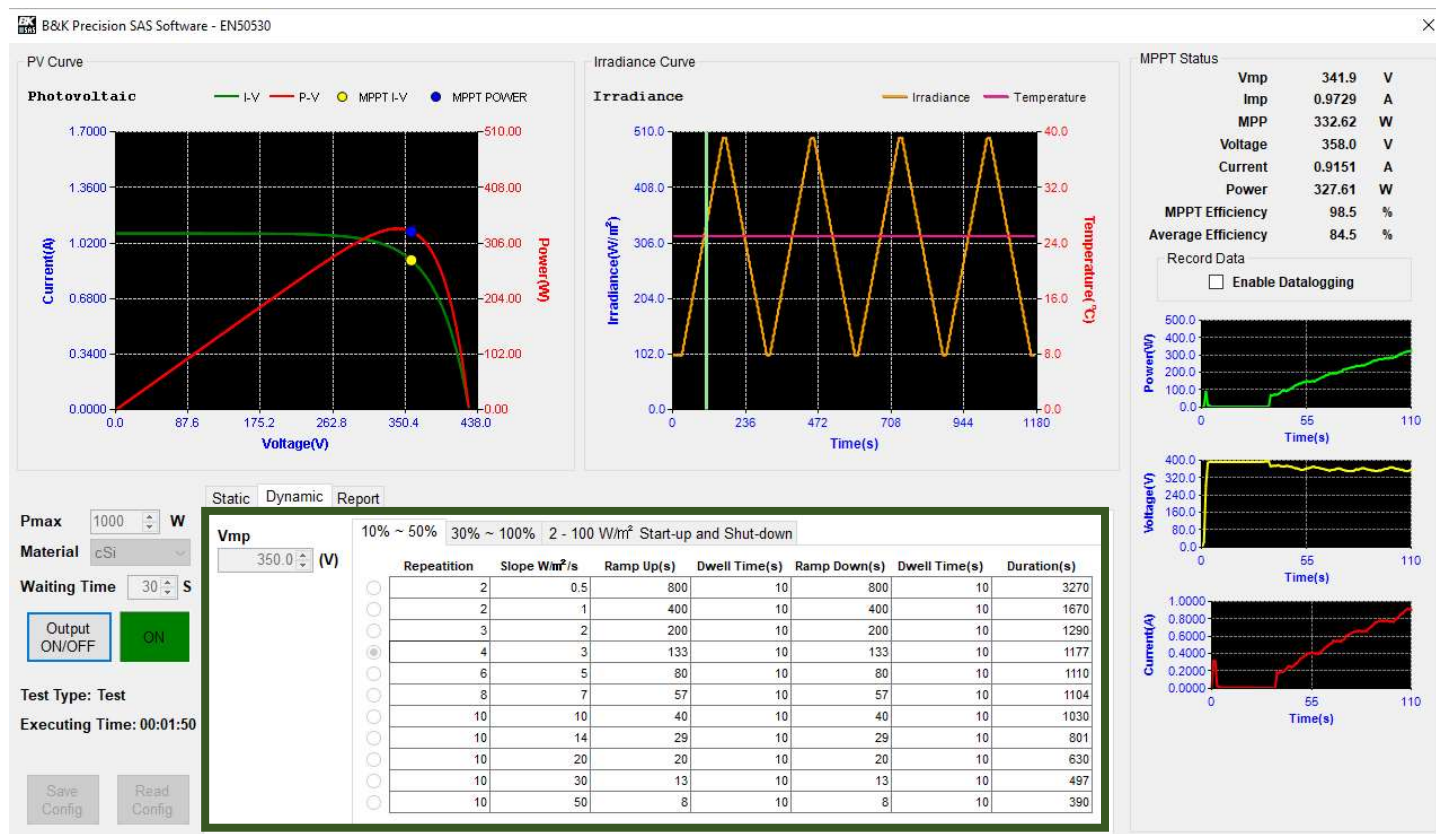

Figure 18- Dynamic simulation for ENT50530 OR NB/T32004
The Dynamic mode lets the user choose a specific option with predefined values in them (Figure 18). The voltage value increases or decreases according to the irradiance curve. The percentage ranges limits the power to this specified range. The irradiance curve determines the voltage, the current value depends on the power value and voltage. Changing the range helps the user observe the changes graphically as the MPP changes in time. The measured values are displayed in the MPPT status box, showing current, voltage, and power over time in a plotted graph. The user should be able to extract the data as a plot or csv file and this feature is essentially a basic data logger.
1. To create a dynamic simulation, the inputs are provided by the user as shown in Figure 18.
4. The values of Repetition (4), Slope (3), Ramp up (133), Dwell time (10), Ramp down (133), Dwell time (10) and Duration (1177) are specified.